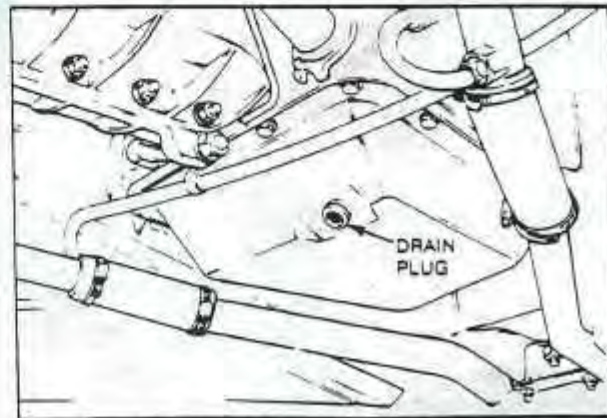

Fig. 9 TRANSMISSION FLUID DRAIN PLUG
2. Remove the drain plug from the transmission fluid pan and allow the fluid to drain thoroughly, *Fig. 9*.